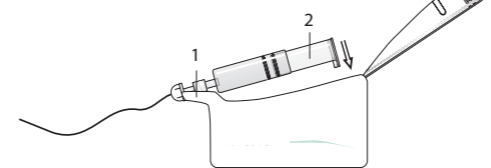

Fig. 3. Positioning of syringe in pump.
4. Fit the syringe into the pump by inserting the front section first (1). Allow the syringe to drop into position so that the threaded piston (2) lines up with the drive screw (see Fig 3).
⑤